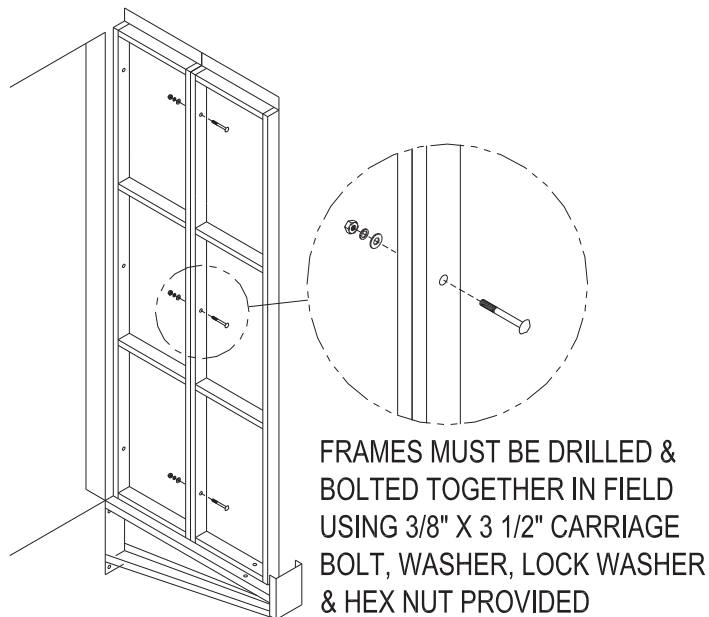

FIGURE 7
Multiple projection side frames install on top of the bumpers the same as single projection side frames except that they must be bolted to each other in at least (3) places per frame with the carriage bolts, washers and hex nuts provided. ((4) places on framing over 14'-0"). See Figure 7.